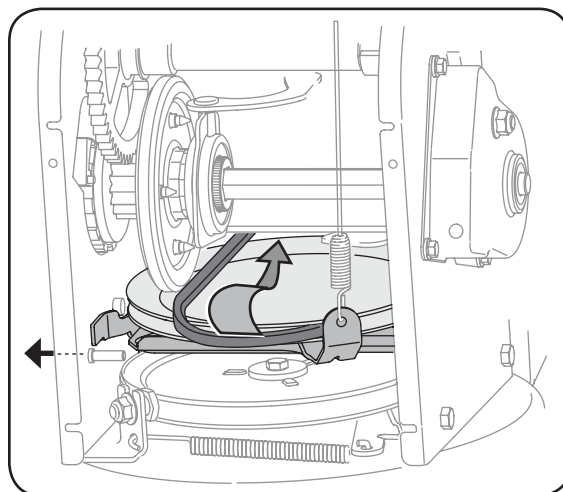

Figure 6-10
5. Back out the stop screw until the support bracket rests on the auger pulley. See Figure 6-10.
6. Slip the drive belt off the pulley and between friction wheel and drive plate. See Figure 6-10.